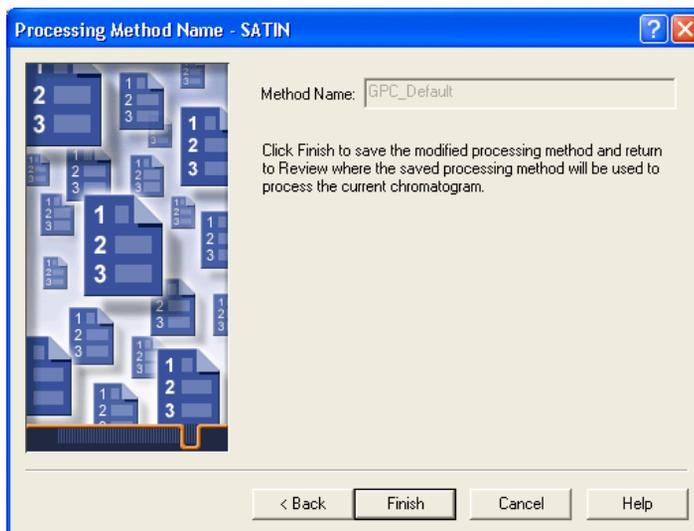

Figure 3-13 Finishing the Processing Method Wizard
15. Click **Next** to go to the Processing Method Name page (Figure 3-13).